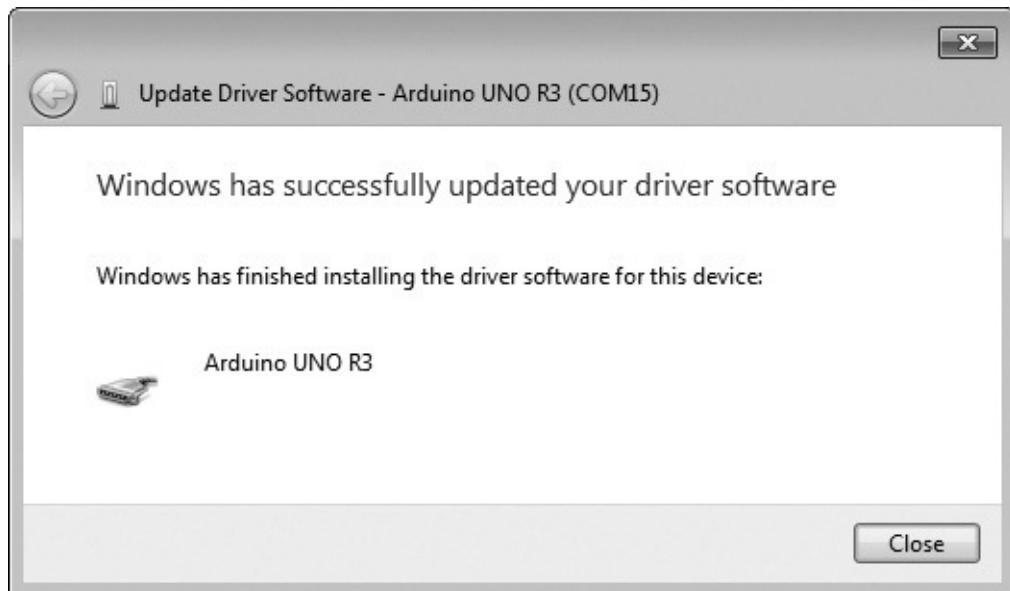

Figure 1-22. The drivers have been updated successfully.
4. Click **Next** in the dialog that follows. Windows may present a message stating that it “cannot verify the publisher of the driver software.” Click **Install this software anyway**. After a short wait, Windows will tell you that the driver is installed and the COM port number the Arduino is connected to, as shown in Figure 1-22.